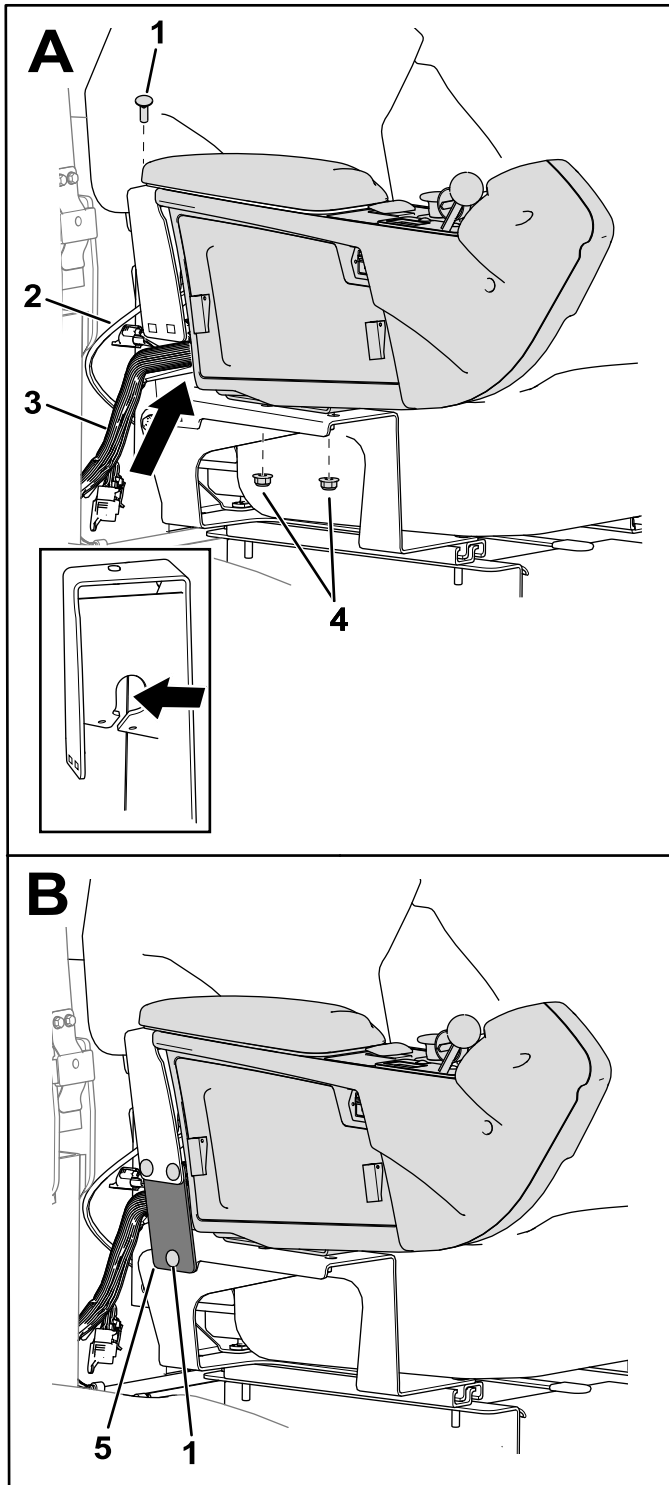

Figure 11
- 2. Position the console to the seat bracket (A in Figure 11).
For Model 31900, 31901, 31907, and 31909 machines: Ensure that the throttle cable is positioned in the seat-bracket gap above the wire harness (inset of A in Figure 11).
- Secure the plate to the seat bracket with 3 carriage bolts and 3 nuts (B in Figure 11).
- Secure the console to the seat bracket with the existing nuts removed in [Positioning the Seat Assembly (page 2)] and a carriage bolt and nut (A in Figure 11).